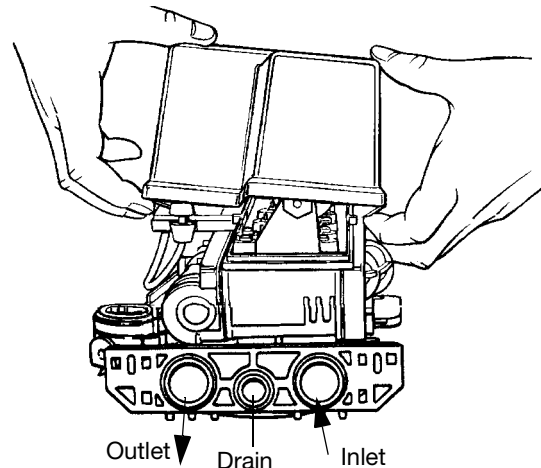
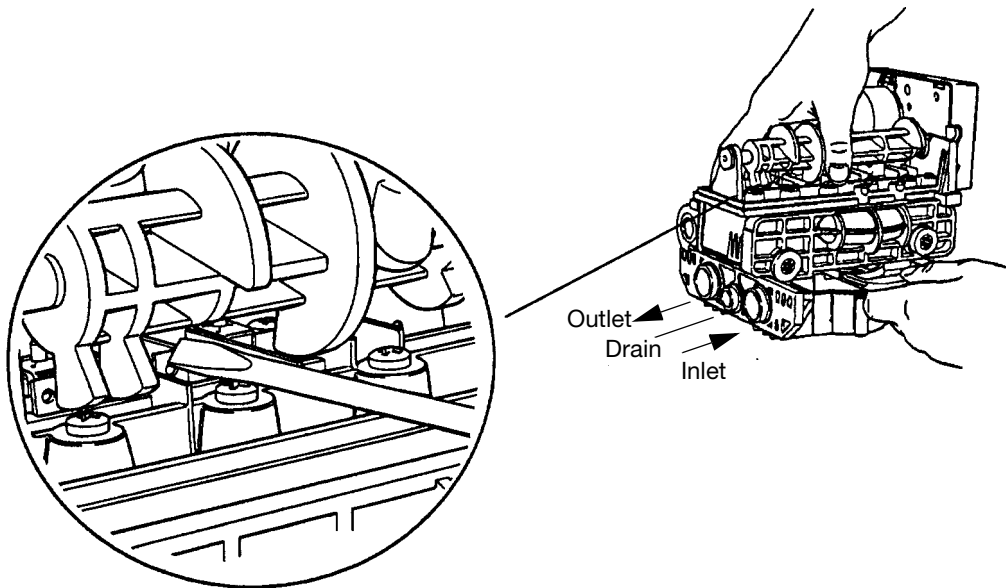

Figure 5
Figure 6
3. Remove the cover (Figure 5), and with a screwdriver, relieve tank pressure by pushing open the drain valve disc (#5) as shown (Figure 6).